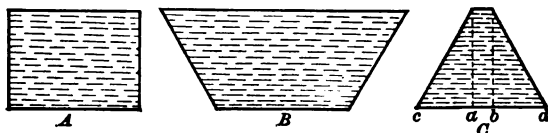
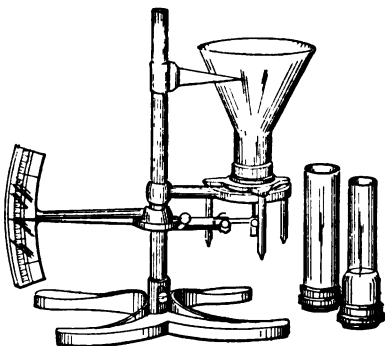

FIG. 50. — Vessels with (*A*) vertical, (*B*) flaring, and (*C*) conical sides.
FIG. 51. — Pascal's vases.
**58. Bottom pressure and shape of vessel.** So far we have considered vessels with vertical sides such as *A* in figure 50.
In the ordinary pail, however, the sides are not vertical, but flare outward as shown in *B* in figure 50. Perhaps one might expect that the pressure on each square centimeter of the bottom would be greater than in case *A*, because there is so much more water in the vessel. This, however, is not the case. Each square centimeter of the bottom has to hold
**59. Experiments with Pascal's vases.** The apparatus (Fig. 51) consists of three glass vessels of shapes to correspond roughly to *A*, *B*, and *C* in figure 50. The bottom of each vessel is made the same size and screws into a short cylinder, across the bottom of which is tied a disk of sheet rubber. The pointer below is a lever with its short arm pressing against the center of the rubber disk, and the long arm moves up and down across a scale.